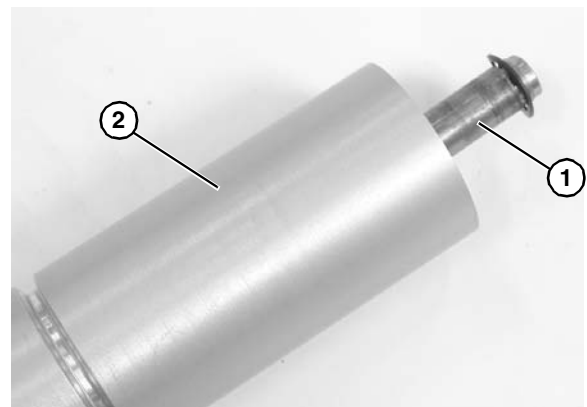

Figure 75
7. Slide the shaft assembly (**Figure 75, item 1**) out of the pulley (**Figure 75, item 2**).